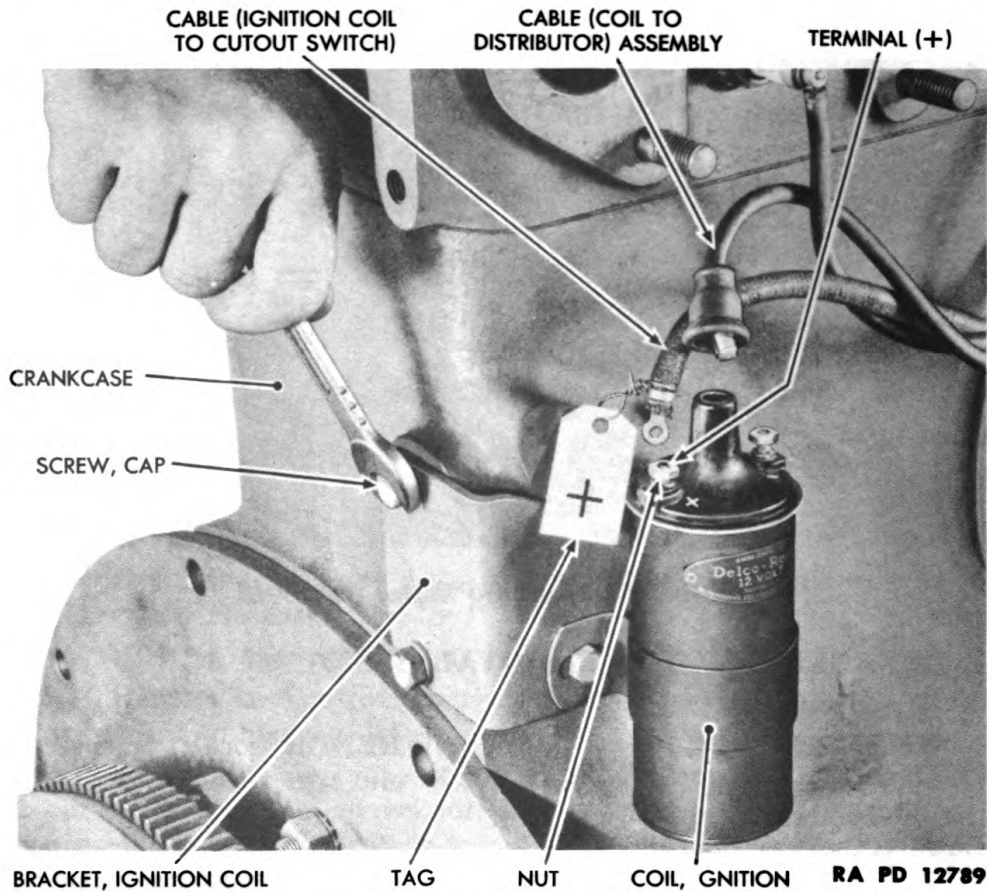

Figure 24—Ignition Coil Removal
43. IGNITION COIL REMOVAL (fig. 24).